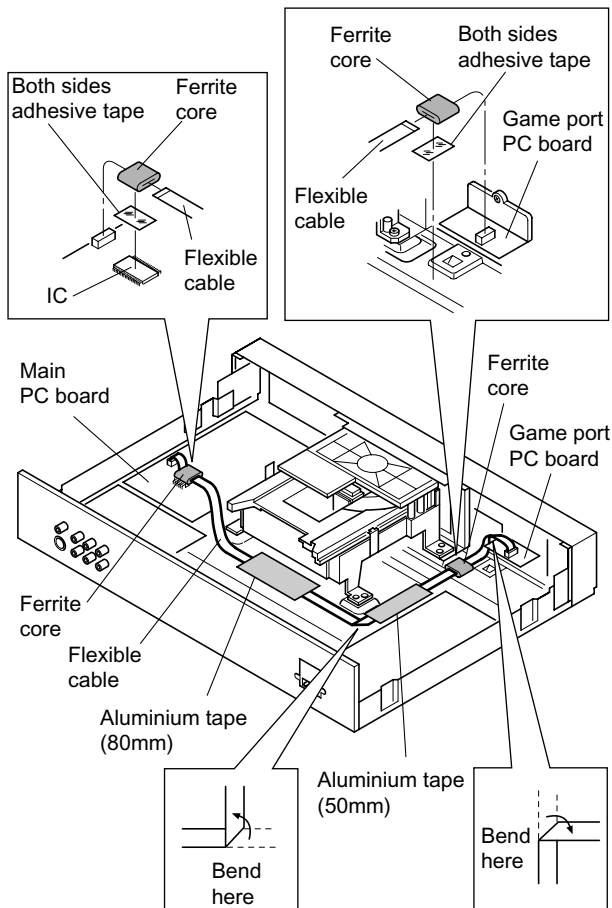

Fig. 2-1-9
- Before removing the main PC board (4), be sure to short-circuit the laser diode output land. After replacing, open the land as it was after inserting the flexible cables (1).
- The game port PC board and the main PC board may be connected. (Refer to Fig. 2-1-9.)
- Remove the top cover. (Refer to item 1-1-1.)
- Remove seven flexible cables (1) and remove one connector (2).
- Remove four screws (3).
- Release two claws and remove the main PC board (4).
- The flexible cable of the game port PC board may be connected to the main PC board. (Refer to Fig. 2-1-9.)
1. Remove the front panel. (Refer to item 1-1-4.)
2. Remove two flexible cables (1).
3. Remove four screws (2) and remove the front display PC board (3)
4. Remove three screws (4) and remove the PC Game port PC board (5).
5. Remove two screws (6) and remove the power switch PC board (7).